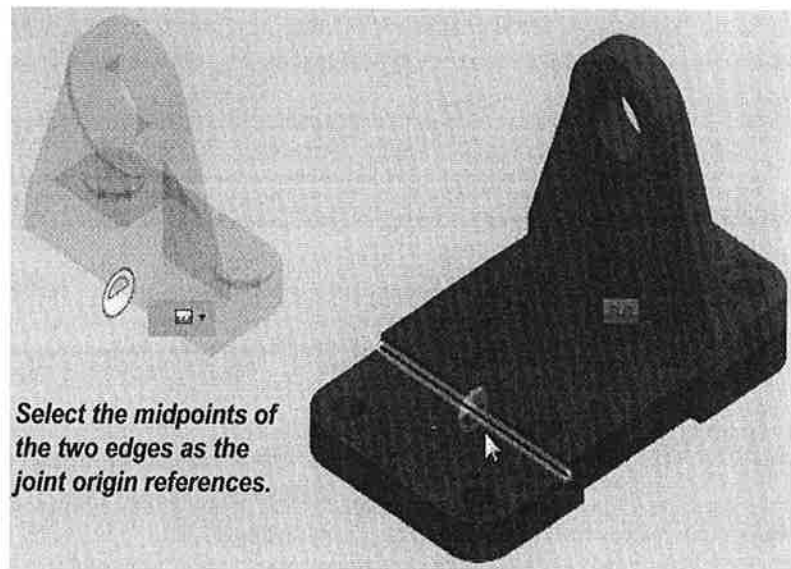

Figure 14-34
4. The *Component1* field is active by default. Select the snap-point at the middle of the bottom edge on **Bracket v1:2**, as shown in Figure 14-34.
5. For the *Component2* reference, select the snap-point at the middle of the edge on the Plate, as shown in Figure 14-34.